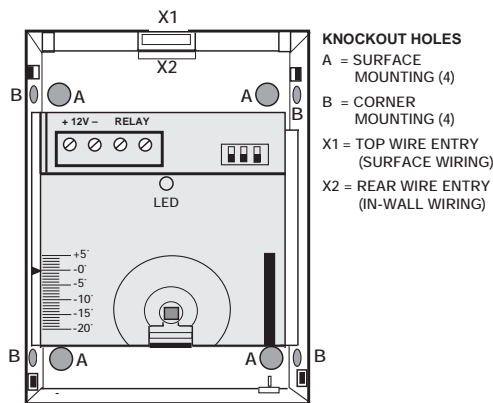

Figure 2. Detector Base
2. Refer to Figure 2. Knockout holes "A" in the base are for normal surface mounting on a wall (slide PC board up for access to bottom holes, down for access to top holes). For corner mounting, see **B. Corner Mounting**. Also break out the desired wire entry hole at this time marked X1 or X2 in Fig. 2).